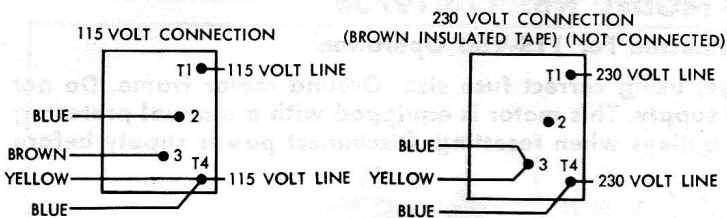

Figure 2
**CAUTION:** Be sure motor is connected for proper voltage (Fig. 2) before using Reversing Switch.